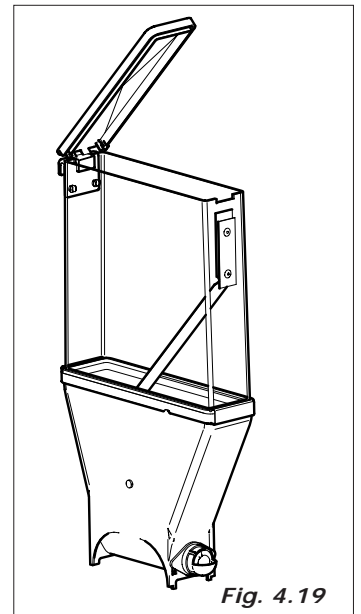

Fig. 4.19
- remove the lids from the product containers covers and product chutes (Fig.4.19). Dip all in the solution previously prepared